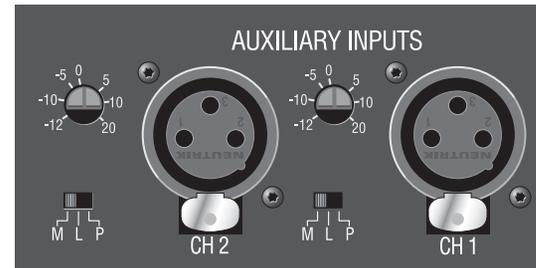

Figure 3.2 Aux Input Level Controls, XLR connectors and Mic/Line/Phantom Slide Switch
**Auxiliary Inputs:** Two female XLR balanced inputs for speech reinforcement or announcements (see Figure 3.2).